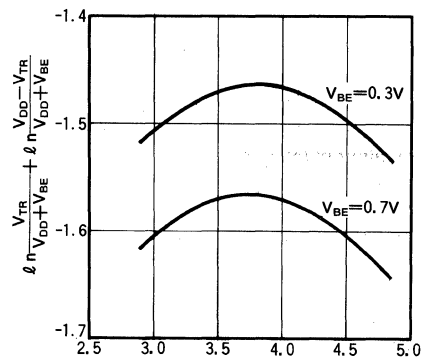

Fig. 1. V_{TR} VS $\ln \frac{V_{TR}}{V_{DD} + V_{BE}} + \ln \frac{V_{DD} - V_{TR}}{V_{DD} + V_{BE}}$
The value in { } of (1) takes the maximum value at $V_{TR} = V_{DD}/2$. For example, under the condition of $V_{DD} = 7.5V$, the relation of the V_{TR} and the value in { } is shown in Figure 1.
Regarding the Figure 1, the value in { } of (1) at $V_{DD} = 7.5V$ is, in a range of $V_{BE} = 0.3V \sim 0.7V$ and $V_{TR} = 2.9 \sim 4.8V$, $-1.647, -1.464$.